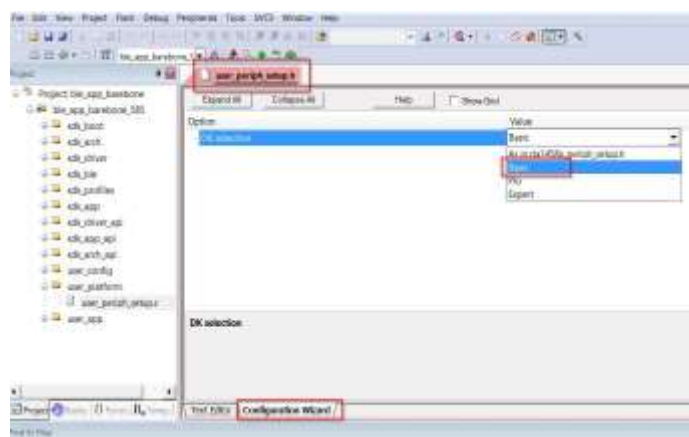

Figure 31: Hardware Settings for Basic Development Kit
- If you can't see any blinky messages in your UART terminal and the LED is not blinking, check the UART and LED jumper configuration, see **Table 2**. You can also make sure that the hardware configuration is set for, see **Figure 31** in **Appendix A**